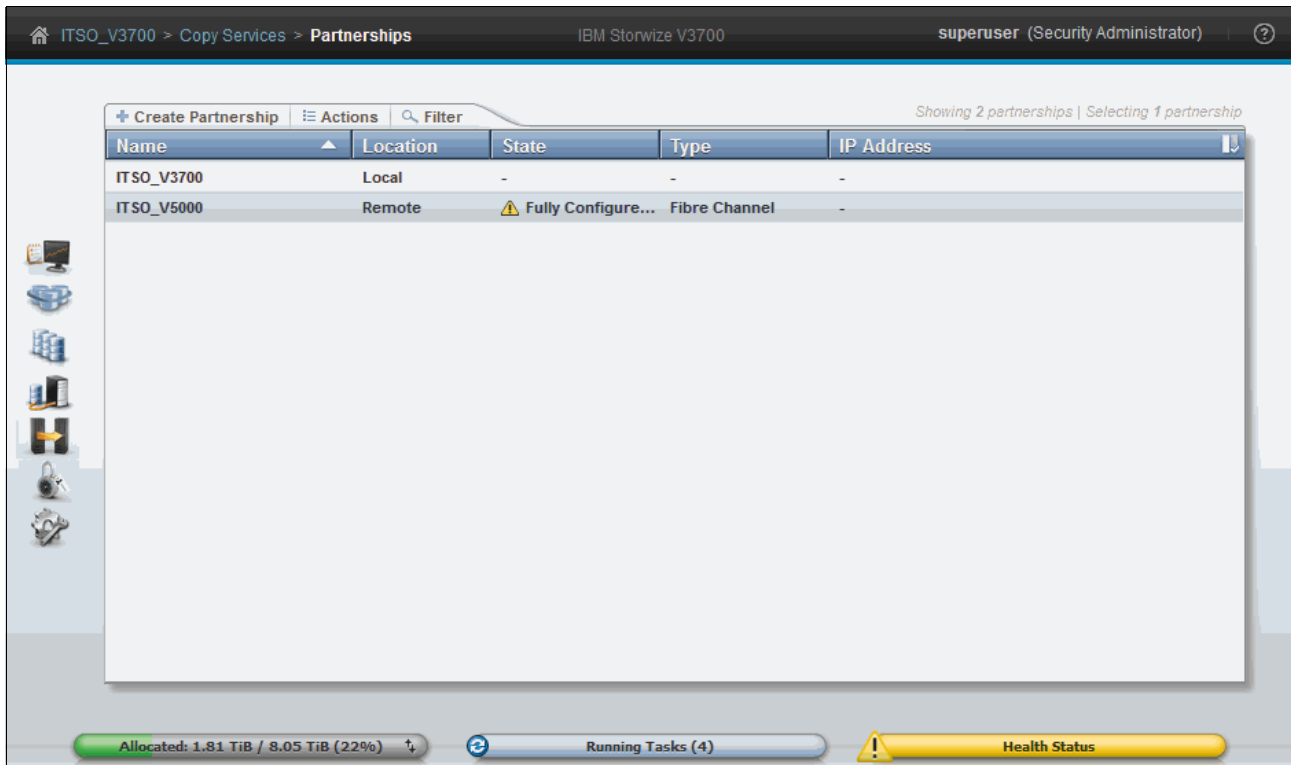

Figure 10-94 Fully configured partnership in Stopped state
2. After you stop the partnership, your partnership is listed as Fully Configured: Stopped, as shown in Figure 10-94.